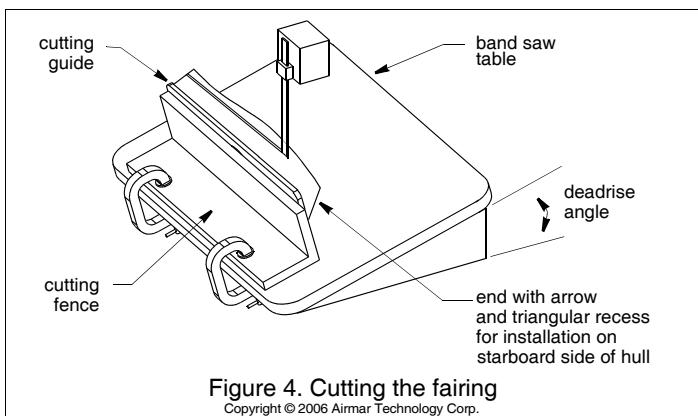

Figure 4. Cutting the fairing
2. Tilt the band saw table to the measured angle and secure the cutting fence (see Figure 4).
3. Place the fairing on the table so the cutting guide rests against the fence (see Figures 4 and 5). The end with the triangular recess will be pointing *toward* you for installation on the starboard side of the boat or pointing away from you for installation on the port side.